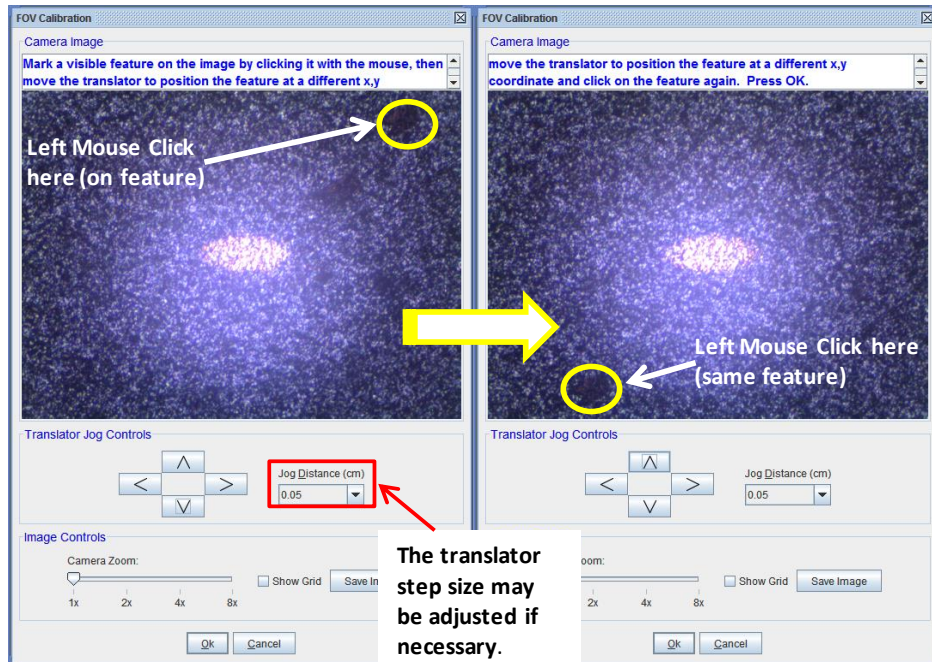

Figure 8-19. Field of View calibration procedure.
4. Follow the instructions at the top of the window: “Mark a visible feature on the image by clicking it with the mouse, then move the translator to position the feature at a different (x,y) coordinate and click on the feature again.” Use a fine tip marker to “create” a feature if necessary. (See Figure 8-19)